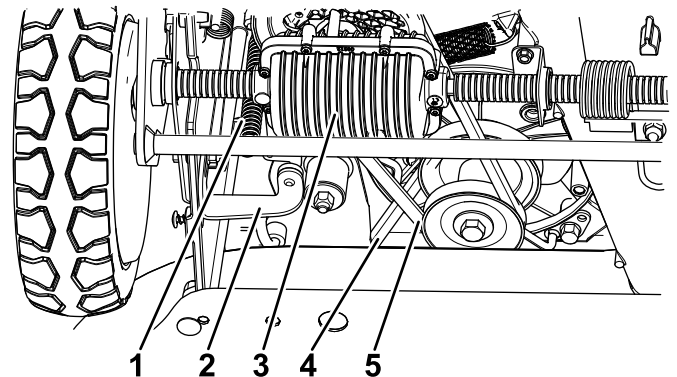

Figure 49
6. Loosen the bracket and rotate the bracket forward (Figure 49).